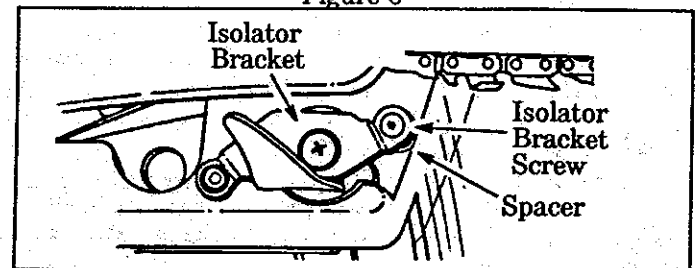

Figure 7
- Remove the isolator bracket screw. Figure 7.
- Remove and discard the spacer under the isolator bracket. Figure 7.